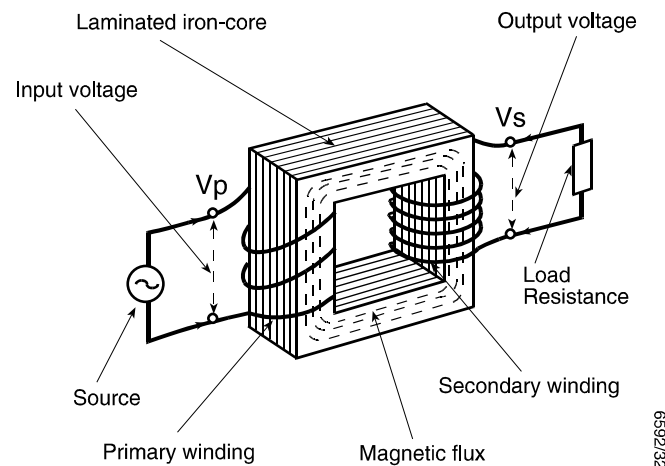

Figure 35 - Voltage Transformers
55. The main application of mutual inductance is in voltage transformers for ac power supply circuits; the basic construction is illustrated in figure 35.